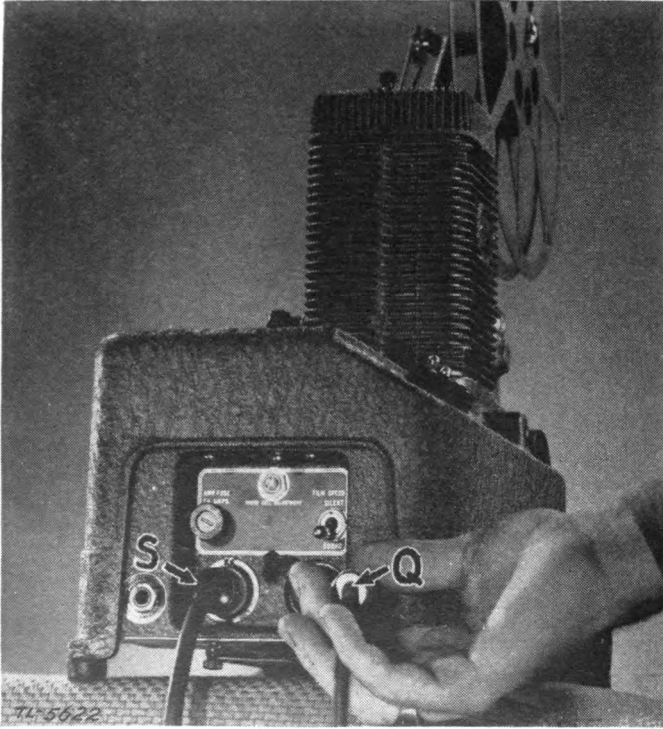

FIGURE 11.—Ampro YA electrical connections.
(1) *Ampro YA.*—Connect speaker to amplifier by inserting speaker cable plug into receptacle *S* (fig. 11) located at the rear of the projector. Plug the five-prong power cable into receptacle *Q*. Plug the other end of the power cable into power source receptacle.